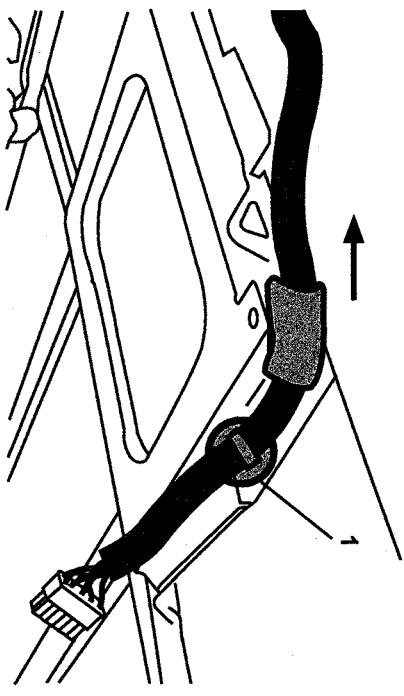

FIGURE 55
- 2.) INSTALL THE CHRISTMAS TREE WIRE TIE (1) ON THE MAIN HARNESS INTO THE ANCHOR HOLE ON THE DRIVER SIDE OF THE BOTTOM DVD MOUNTING BRACKET, SECURING THE MAIN HARNESS IN PLACE. (SEE FIGURE 55)
- 3.) ROUTE THE DVD MAIN HARNESS FORWARD TOWARDS THE FRONT OF THE VEHICLE AND AROUND THE BRACKET EDGE TOWARDS THE PASSENGER SIDE OF THE VEHICLE. (SEE FIGURE 55)